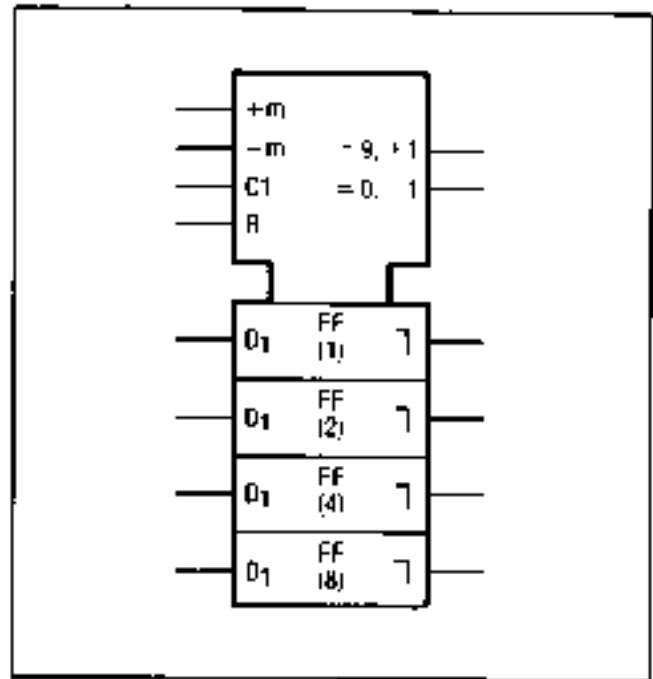

Figure 8-12. UP-DOWN Counter
**UP-DOWN Counter.** The counter control block shows common inputs to a Presettable Decade UP-DOWN Counter (see Figure 8-12). Notice that "+m" means count up (increment the count) by "m"; "-m" means count down by "m." Note: If m=1, then "m" may be omitted. Since the D-type flip-flops are master-slave, the output delay indicator is used. The "=9, +1" and "=0, -1" notation defines when the carry and borrow outputs are generated. They also define it as a decade counter; a binary counter would have the carry indicated with "=15, +1." Flip-flop weighting is indicated in parentheses. Input "C1" allows all four "D1" flip-flops to be preset in parallel.